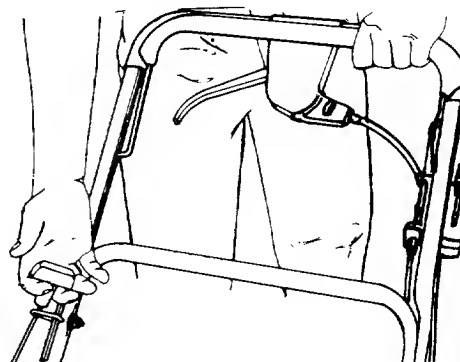

FIGURE 15.
2. Standing behind the unit, depress the blade control handle and hold it against the upper handle as shown. See figure 15.